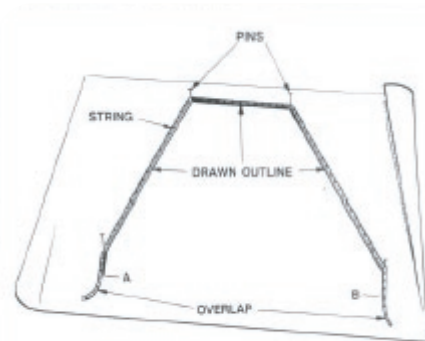

Figure 1
**Measure the Projected Length.** The following calculation applies to the amount of carbon fiber tape you will require to make a standard shape u/c. Before we start to calculate, we must know the size and shape of the u/c to be produced. If you are replacing an existing unit, you use the unit as a pattern. If not, we must have a front view drawing of the proposed unit. Some plans provide this. If not, draw a view using information supplied on the plan and side view. Keep this drawing; you will require it later. If using an existing unit, with a piece of string, lay it around the outer edge (perimeter), mark a line at the bottom of each side, remove and measure the string and add 1 inch. This measurement is the projected length. If using a drawing, pin it down flat on a board, place pins at each bend (See Fig. 1), lay a piece of string around the drawing from A to B + 1 inch. Measure the length of string to give the projected length.